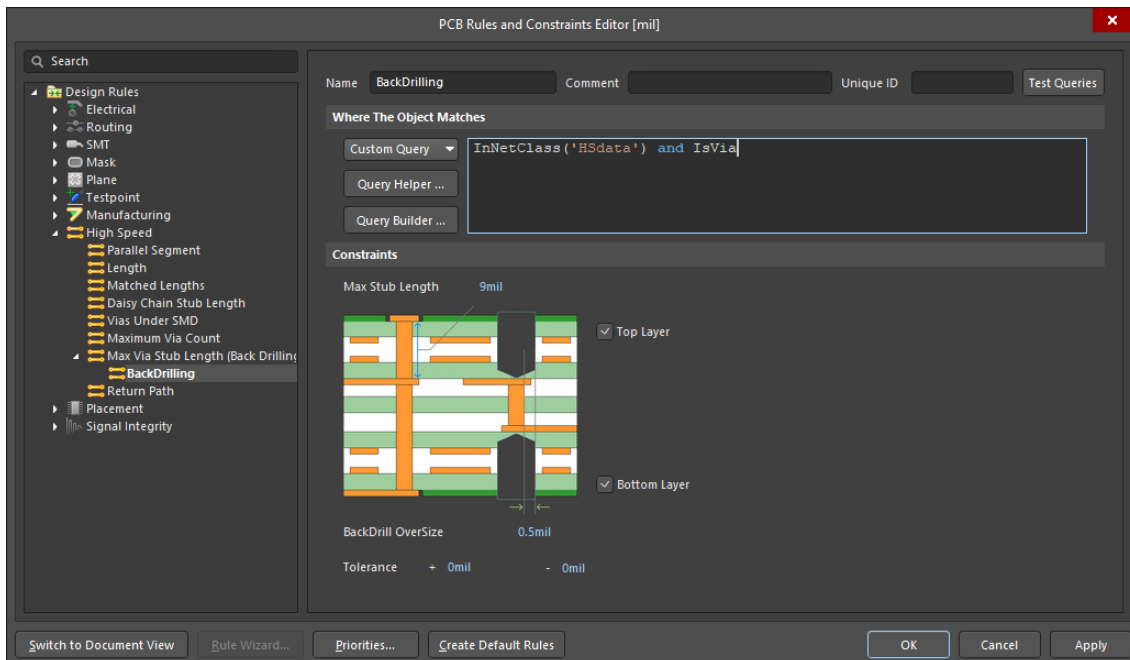

Figure 9. Using Custom Query to limit Rule to Vias with the nets of the Net Class HSdata
15. This would work well enough on the current design, but to illustrate the capability of the Rules we can limit the rule to only Vias associated with the HSdata Net Class using the Custom Query option: `InNetClass('HSdata') and IsVia`, Figure 9.